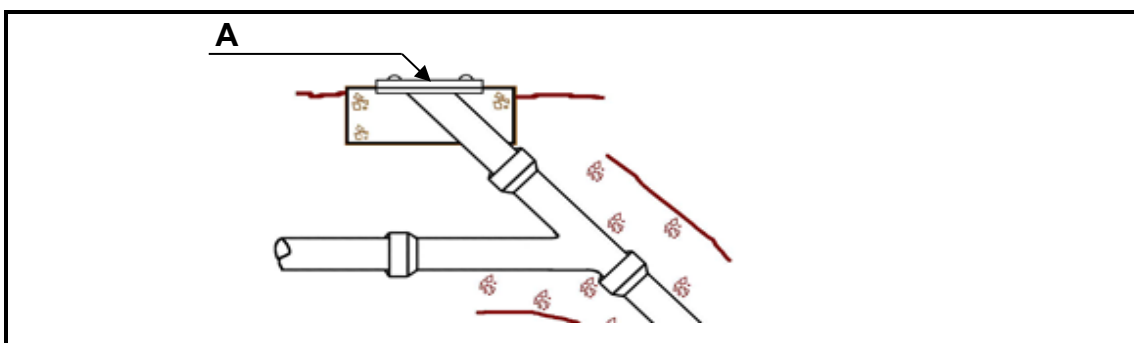

FIGURE 5.3
- 5.3 Answer the following questions with regard to the drainage system in FIGURE 5.3.